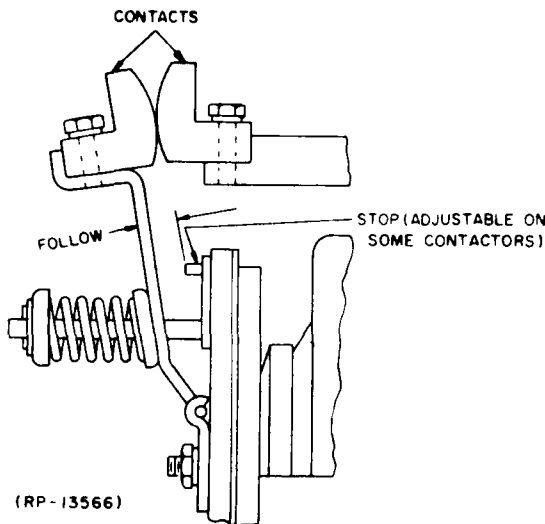

FIG. 2 FOLLOW OF MAIN CONTACTS
RELAY MECHANICAL REQUIREMENTS (FIGURES 2 AND 3)
4.245 Readjust main contact follow by moving the adjustable stop screw provided on the relay armature. This adjustment affects the contact gap, which should be rechecked. See Figure 2.